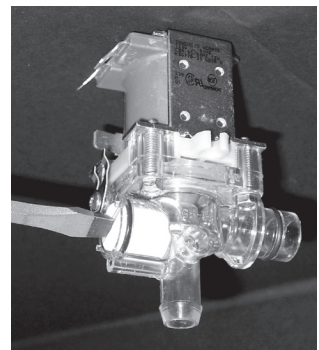

Figure 1. Adjustment
1. Loosen the small screw on the metal guard. Rotate it away from the adjustment screw (fig. 1.).